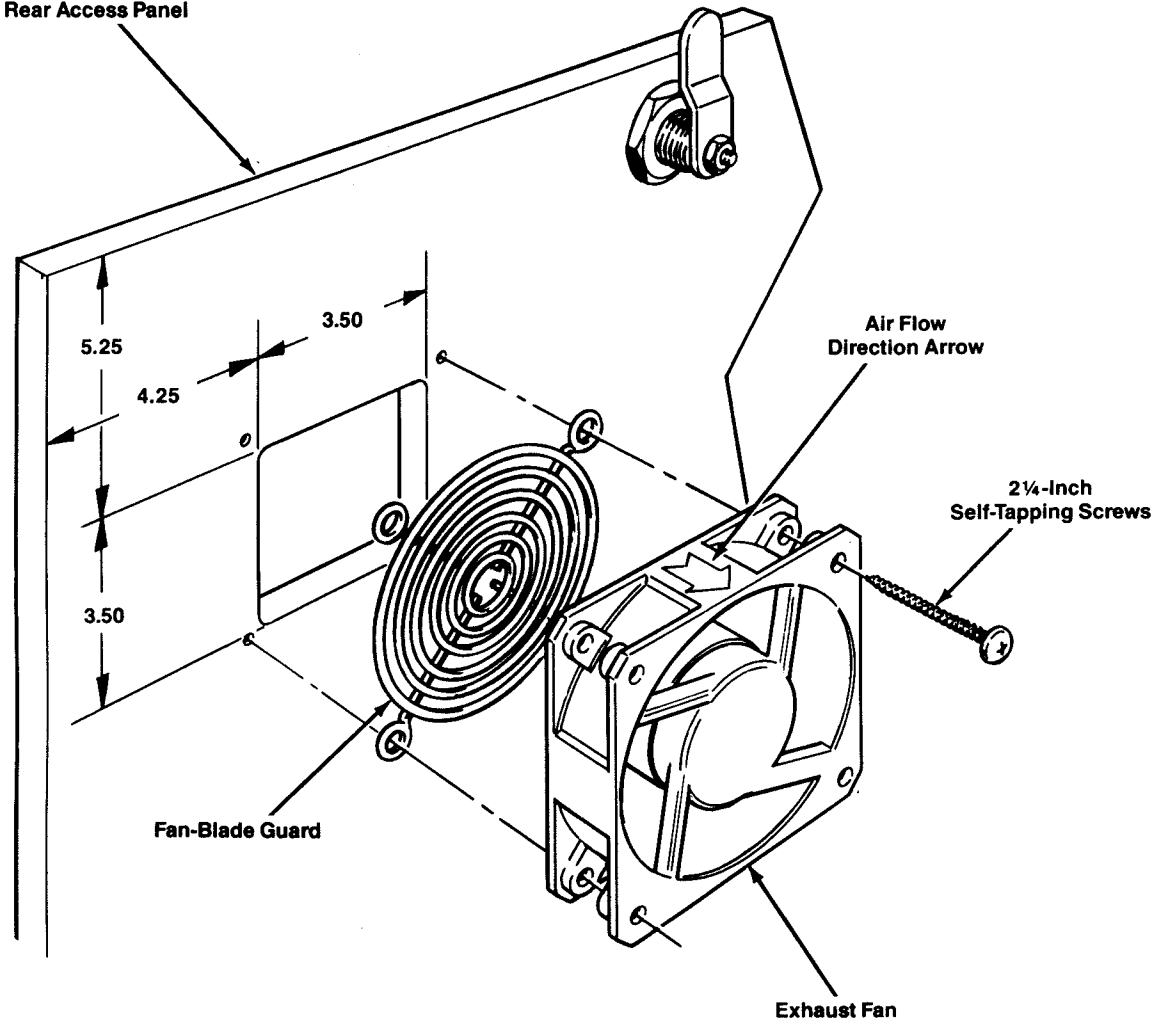

Figure 10 Modifying the Rear Access Panel and Installing the Fan
Perform the following procedure to modify the rear access panel to provide a fan intake opening (see Figure 10).
1. Measure and mark the rear access panel for locating the fan intake opening as shown in Figure 10.
Perform the following procedure to install the fan in the game cabinet (see Figure 10).